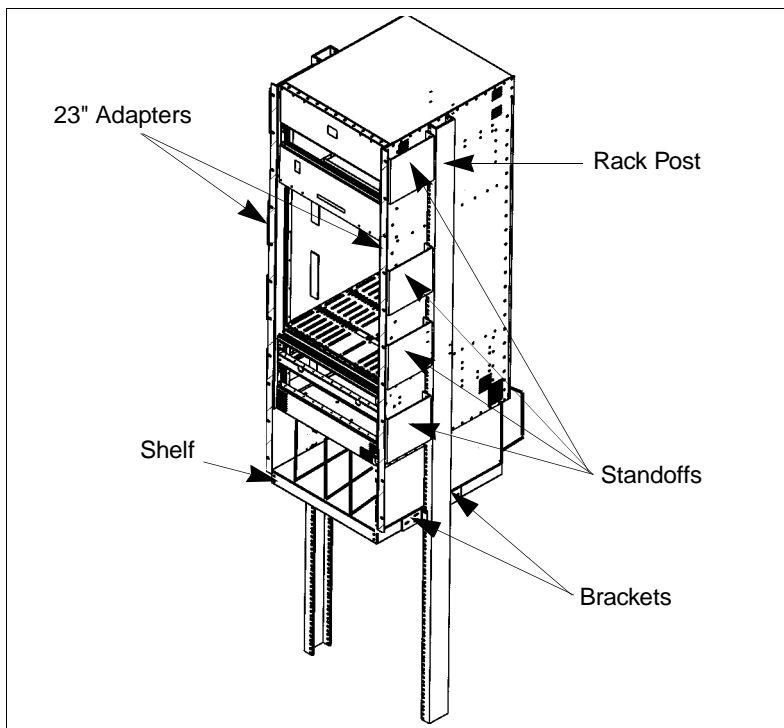

Figure 5 - Finished Chassis Installation
- c. Align the mounting holes on the switch with the mounting holes on the standoffs and secure using the #12-24x.375 screws provided. The finished installation should look like Figure 5.